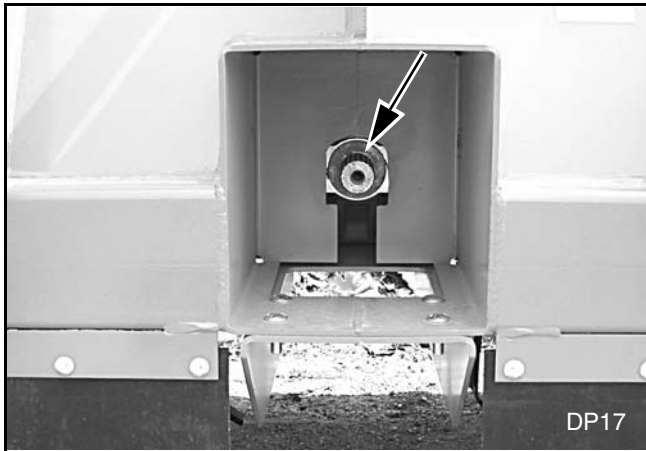

Figure 45. Gearbox Input Shaft
1. Install PTO driveline by sliding the yoke with the slip clutch over the input shaft (Figure 45).